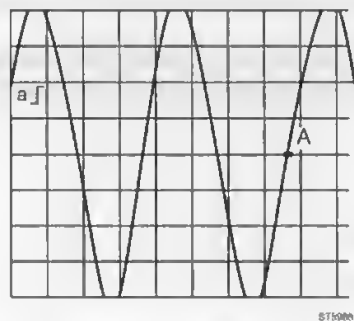

Figure 4.9 Trigger level indication on screen
- E Press the TRIGGER key. Use the select/adjust keys to verify that the trigger level range is more than 8 divisions (4 divisions up and 4 divisions down). The selected trigger level is shown on the display (reversed indication "⇐ LEVEL"). Also the trigger level indication, marked with an A ⌋ will shift, while shifting the trigger level. See figure 4.9.